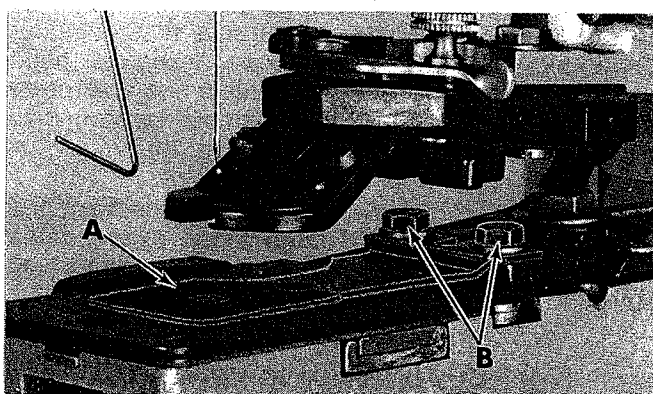

Fig. 27
The feed plate (A, Fig. 27) should be located so that it will not interfere with the needle at any point of its travel.
Loosen the two screws (B, Fig. 27) and move plate to the desired position. Tighten screws (B). This adjustment should be made while manually rotating the pulley so that the machine completes a full stitching cycle. The selector lever at the rear of the machine should be in the Four Hole Button position.